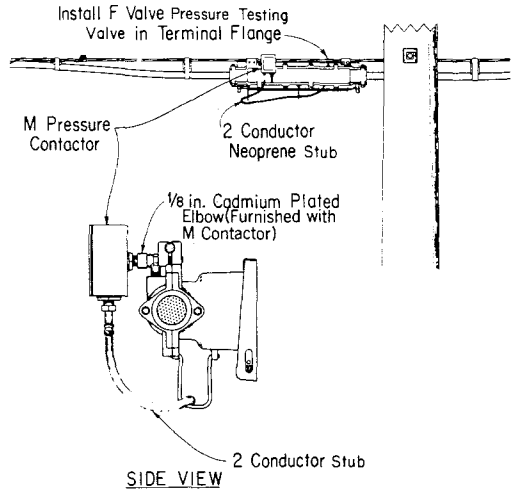

Fig. 13—M Pressure Contactor Installed At a Splice Case
5.15 Installation at a Splice Case with a T- or 61-Type Terminal: Where the contactor installation is to be made at a splice case, remove the pipe plugs from the pressure-testing flanges on the splice case and the terminal. The street elbow furnished with the contactor is required with this installation to provide adequate clearance from the strand and splice case. Coat the pipe threads on the F pressure-testing valve on the pipe fitting of the contactor, and the male end of the street elbow with thread compound. Install the valve stem in the pressure-testing flange of the terminal. Install the street elbow in the pressure-testing flange of the splice case, and then screw the contactor into the street elbow. A typical installation at a splice case is shown in Fig. 13.